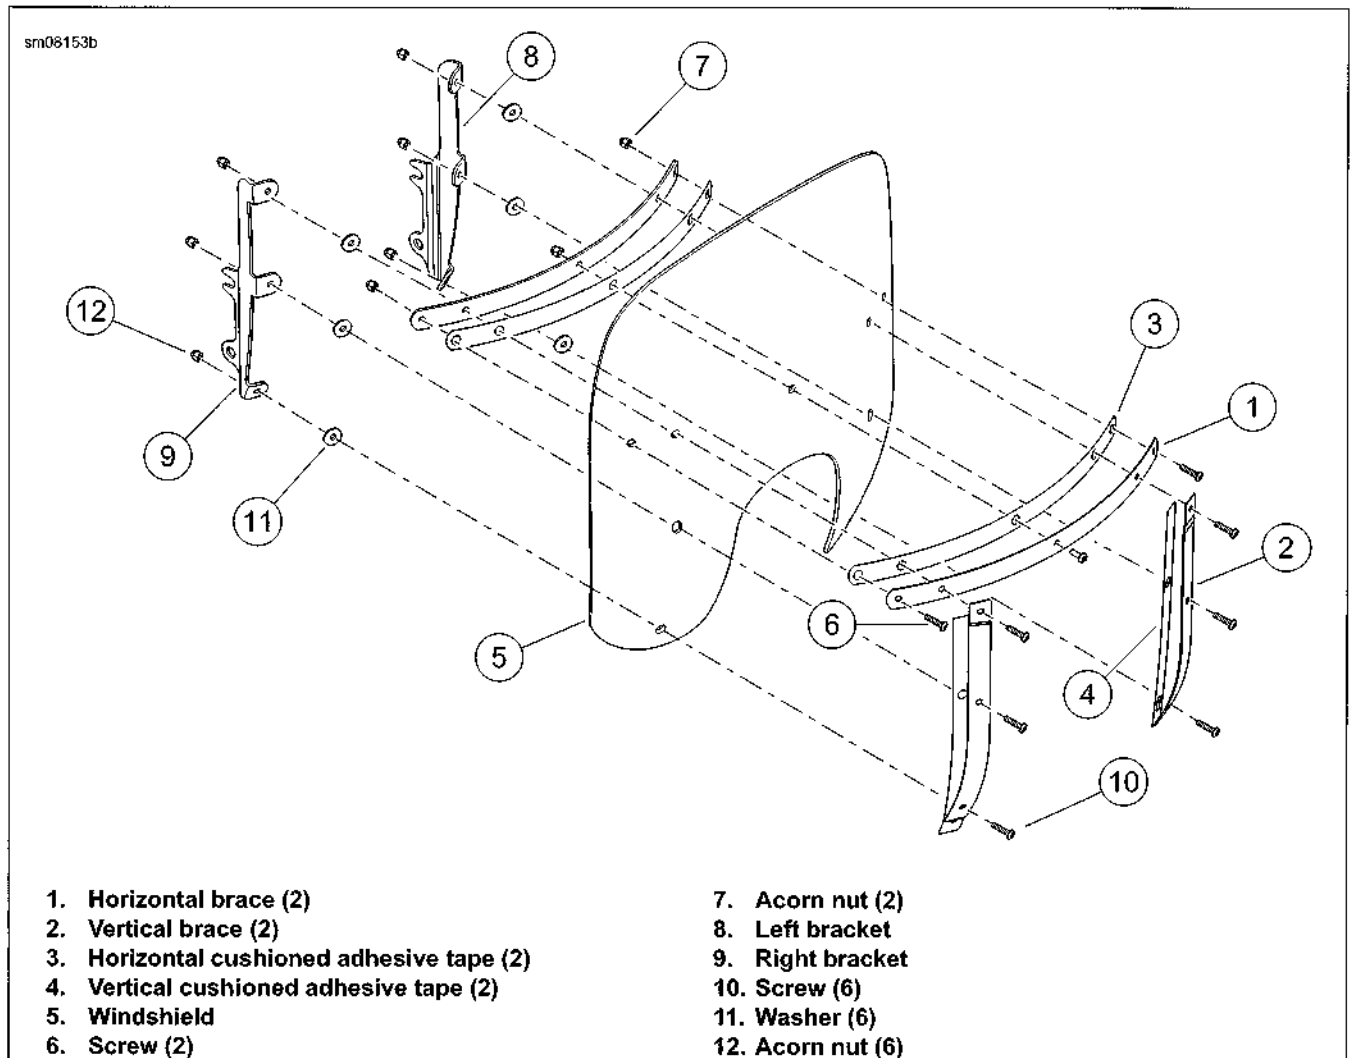

Figure 2-164. Windshield
2. See Figure 2-164. Remove the acorn nuts, washers and screws to remove the left and right mounting brackets.
- See Figure 2-164. Prepare the horizontal (1) and vertical braces:
- Place **new** windshield (5) front side down on clean padded surface.